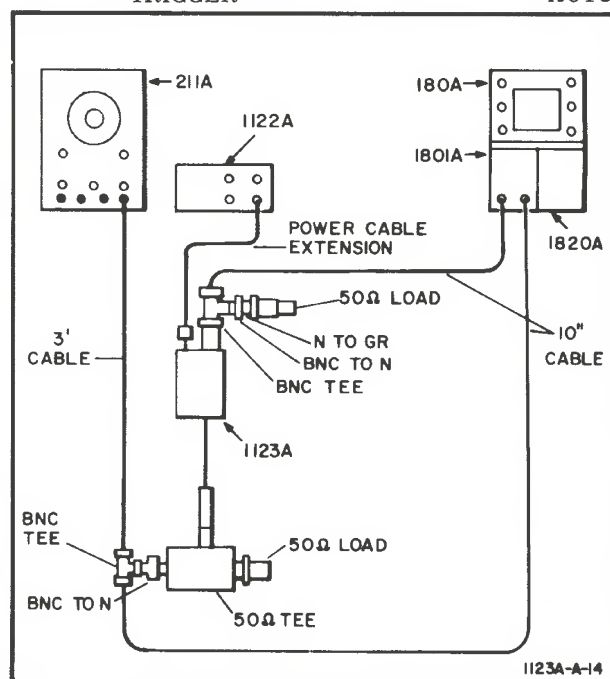

Figure 5-1. Gain Check Test Set-up
- a. Connect the equipment as shown in Figure 5-1.